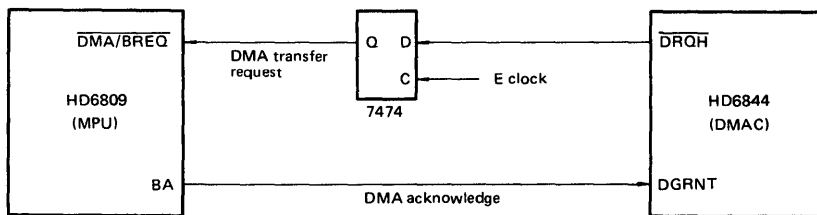
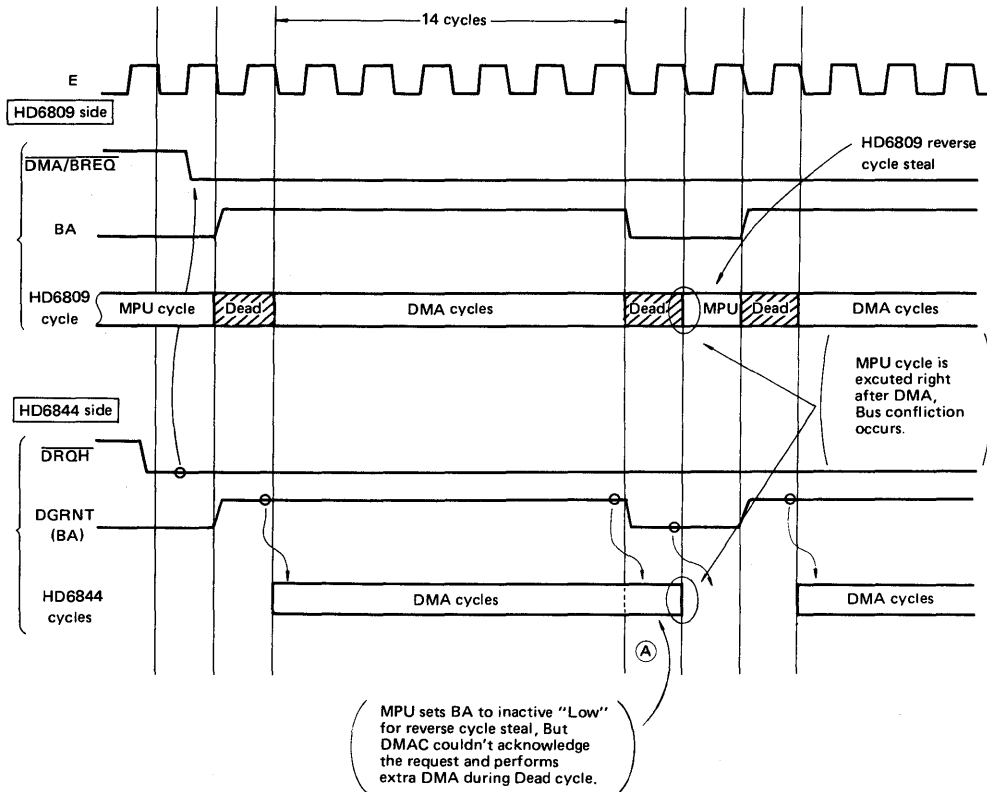

Figure 24 An Example of HD6809, HD6844 System
Figure 25 Comparison of HD6809, HD6844 DMA cycles
(The restriction is also applied to the system which doesn't use 7474 Flip-Flop. Fig. 24, Fig. 25 shows an example which uses 7474 for synchronizing DMA request with E.)
As shown in Fig. 25, DMA controller can't stop DMA transfer (A) by BA falling edge and executes an extra DMA cycle during HD6809 dead cycle. So MPU cycle is executed right after DMA cycle, the Bus confliction occurs at the beginning of MPU cycle.